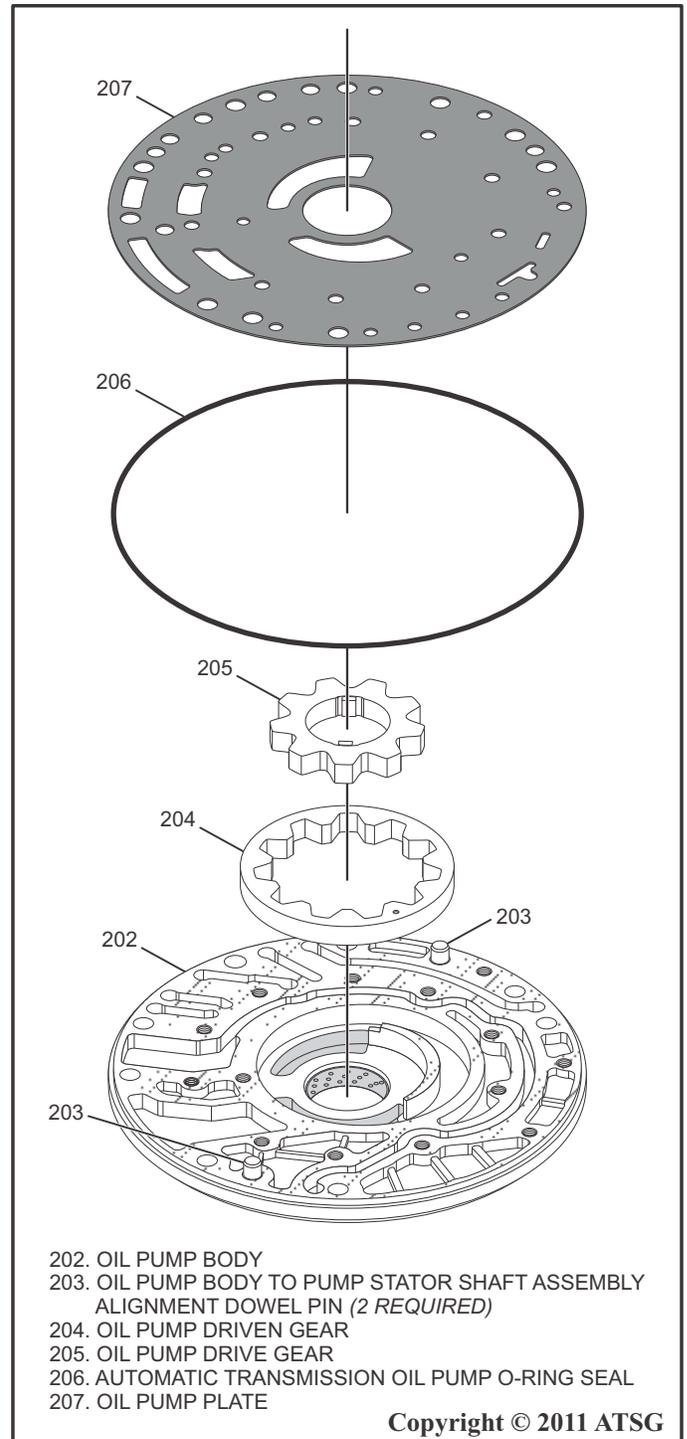

Figure 98
16. Remove the Oil Pump Plate, Oil Pump O-Ring Seal (*Discard the O-Ring Seal*) and the Oil Pump Driven and Oil Pump Drive Gears from the Oil Pump Body as shown in Figure 98.
17. Remove the Oil Pump Body Alignment dowels as shown in Figure 98.